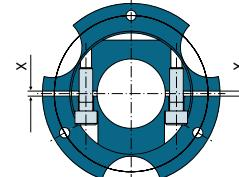

Fig. 102
- Tighten the clamping screws crosswise in several procedures. Please ensure that the gap "X" on both sides of the hub is the same (Fig. 102).